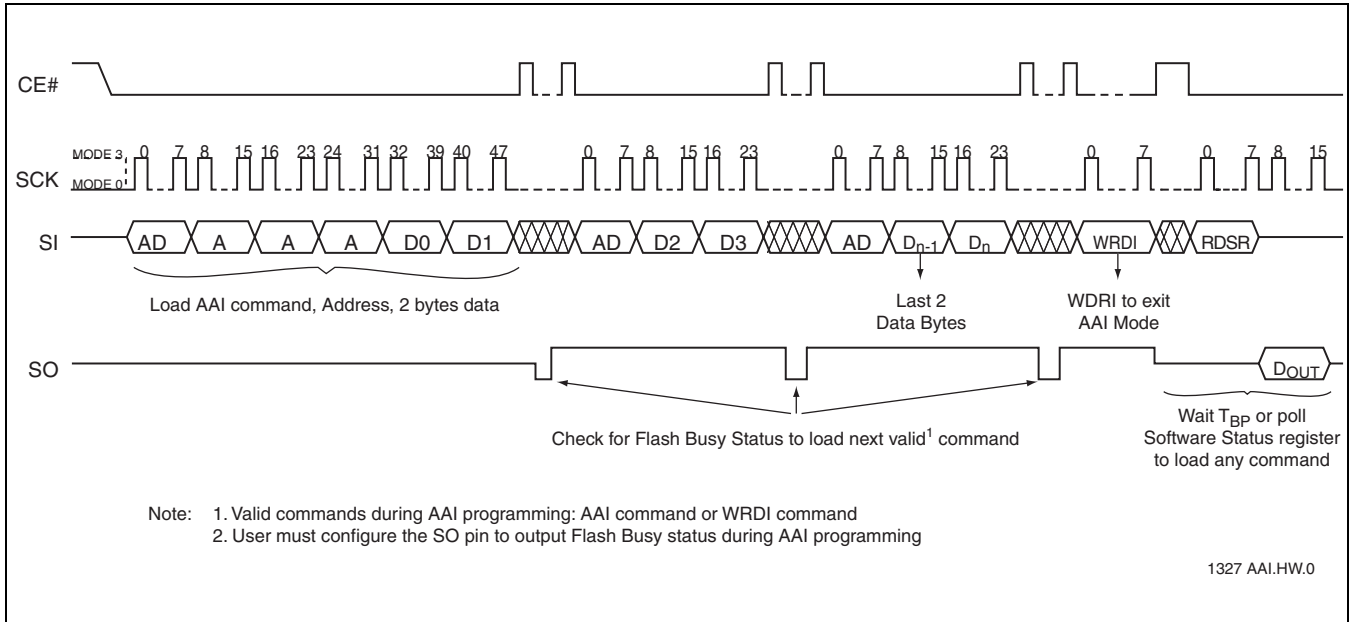

**FIGURE 8: Enable SO as Hardware RY/BY# during AAI Programming**
The hardware end-of-write detection method eliminates the overhead of polling the Busy bit in the Software Status Register during an AAI Word program operation. The 8-bit command, 70H, configures the Serial Output (SO) pin to indicate Flash Busy status during AAI Word programming, as shown in Figure 8. The 8-bit command, 70H, must be executed prior to executing an AAI Word-Program instruction. Once an internal programming operation begins, asserting CE# will immediately drive the status of the internal flash status on the SO pin. A '0' indicates the device is busy and a '1' indicates the device is ready for the next instruction. De-asserting CE# will return the SO pin to tri-state.